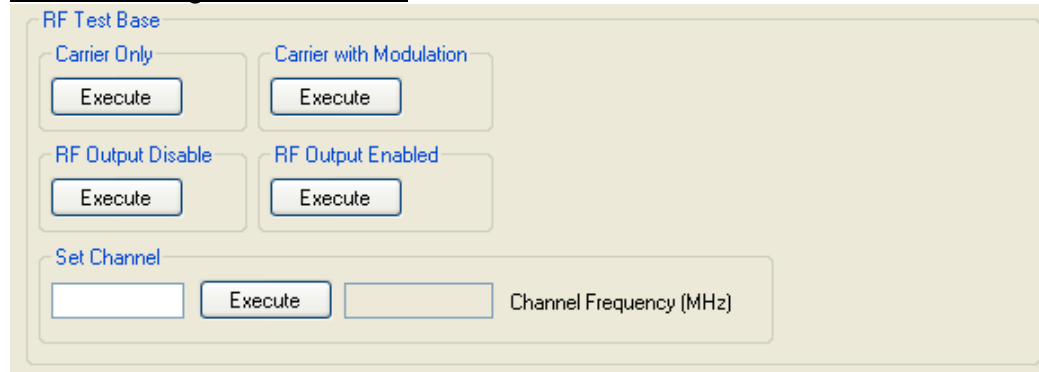

Fig 4
1. Enter the required channel number in the Set Channel box and press the adjacent [Execute] button (fig 4)
2. Press the Carrier Only [Execute] button (fig 4)
4. Press the Carrier with Modulation [Execute] button (fig 4)